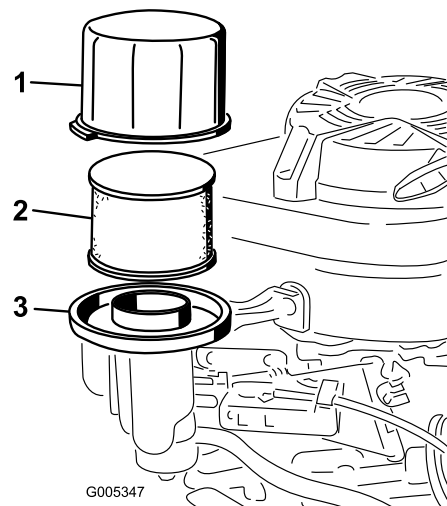

Figure 21
3. Remove the cover and clean it thoroughly (Figure 21).
4. Remove and inspect the paper air filter (Figure 21), and discard it if it is excessively dirty.
5. Remove the foam pre-cleaner and wash it with a mild detergent and water, then blot it dry (Figure 21).